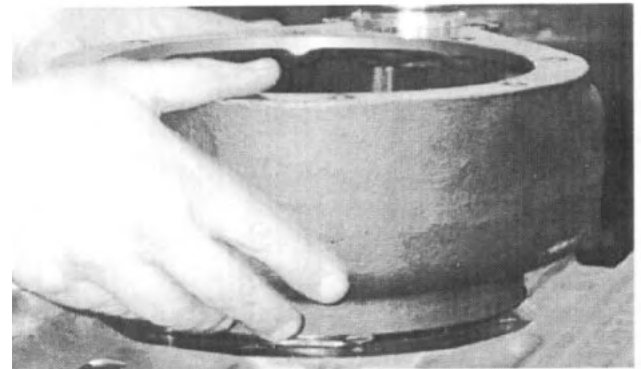

Fig. 61
4. Install the front drive declutch housing, noting its proper orientation (refer to Fig. 107). Tighten, but do not torque the bolts at this time. *See Fig. 61.*